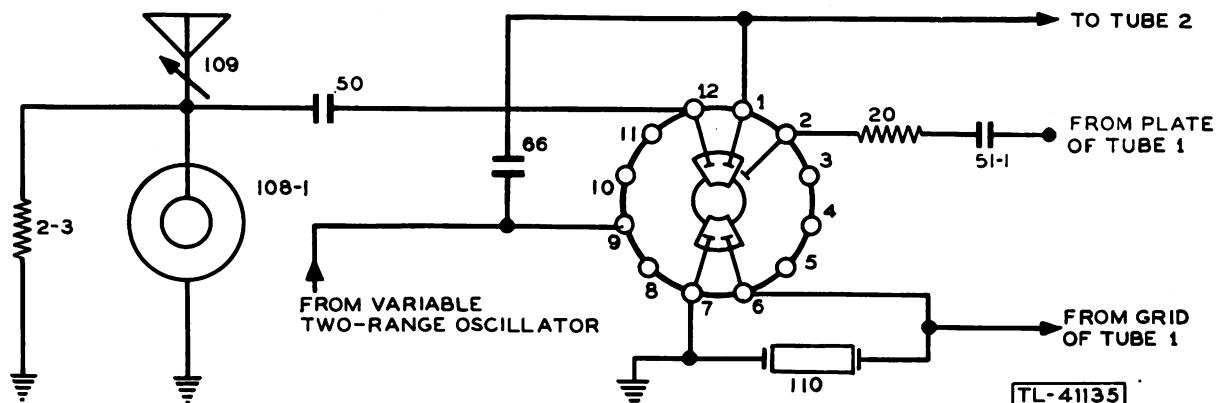
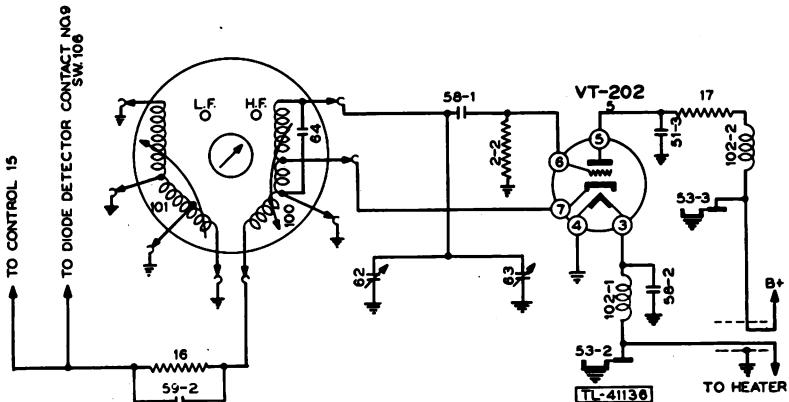
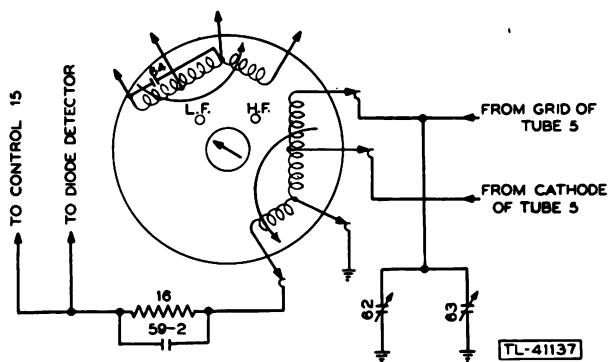

Figure 5. Switch 106 (TEST position).
Figure 6. Variable two-range oscillator (switch in h-f position).
Figure 7. Two-range switch (l-f position).
(3) When switch 106, marked TEST CRYSTAL, is in the CRYSTAL position, points 1 and 2 are connected, coupling the oscillator output to the detector. When the switch is turned to the TEST position, this circuit is open and points 6 and 7 are connected, shorting out CRYSTAL 110. In the CRYSTAL position, the short circuit is broken and the crystal is in the grid circuit (fig. 5). A 0.005mf capacitor (52) and .01mf capacitor (54-5) serve as an r-f filter together with resistor 3. Resistor 2-1 is the grid leak.
(4) The use of two parallel capacitors, 52 and 54-5, instead of a single capacitor, was occasioned by the fact that, due to the inductance present in 54-5, a paper capacitor, loading of the tank circuit developed a quasi-resonance in the middle of the h-f band. Accordingly, mica capacitor 52 was added in shunt across capacitor 54-5 to shift the resonance point.
c. Variable Two-range Oscillator (fig. 6). This is the test oscillator. It uses a midget triode Tube VT-202 u-h-f (5) in a modified Hartley circuit. A turret, having both a high-frequency coil (100) and a low-frequency coil (101), rotates as the switch marked RANGE is turned to either the h-f or l-f position. This places the desired coil in the circuit, removing the other coil (fig. 7). The cathode is connected to a tap on the coil and feedback between the grid and plate circuits secured by mutual inductance between the two sections of the coil. Resistor 2-2 is the grid leak, capacitor 58-1 the grid capacitor. Variable capacitor 63 is the main tuning capacitor and is controlled from the panel by the knob marked TUNING. A small variable air capacitor 62 in parallel with capacitor 63 is used as a vernier control for restoring the calibration of the main tuning capacitor by adding or subtracting as much capacity as is required; it is controlled from the panel by the knob marked CALIBRATE.